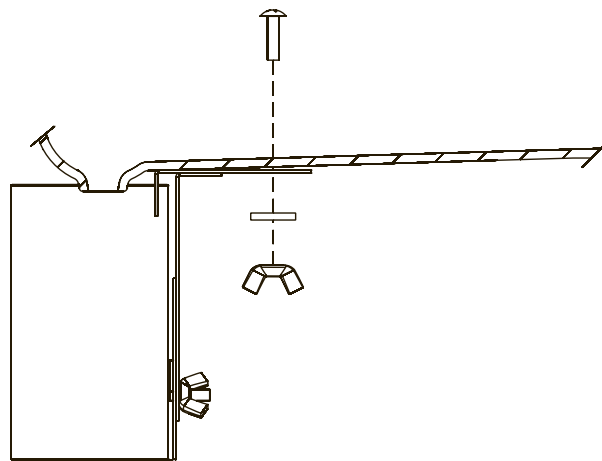

Figure 4
Attach the grease cup bracket assembly (10) to the bottom of the grill casting and fasten with 10-24 x 3/4" bolt, 9/32 ID x 5/8 OD washer, and #10-24 wing nut. Figure 4.